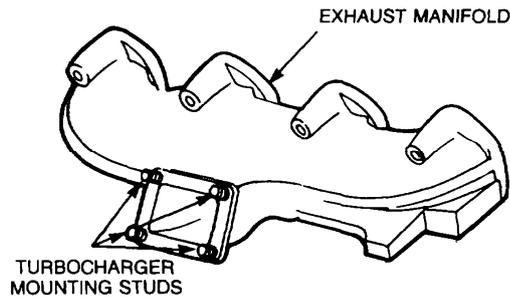

Figure 4 Exhaust Inspection
- d. Ensure that the cylinder head studs and manifold studs are not bent or damaged. Replace the studs as necessary (Figure 4).